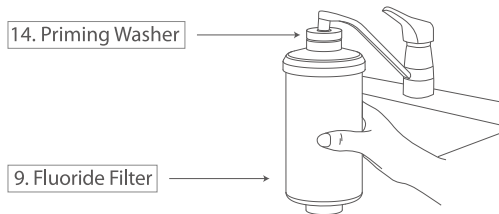

Figure 4
Attach the Fluoride Filter (9) to the water outlet of your faucet, making a tight seal with the Priming Washer (14), and flush the Fluoride Filter (9) for at least 120 seconds or until the water runs clear. (Figure 4)